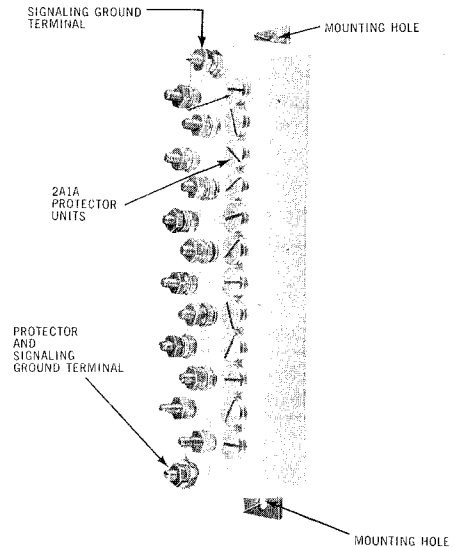

Fig. 4 — 117B Protector (Indoor)
2.05 117B Fuseless Protector, (Fig. 4) signaling ground terminals are located at each end of the terminal block. One of these terminals is arranged to permit installation of a No. 10 gauge wire for protector grounding purposes.